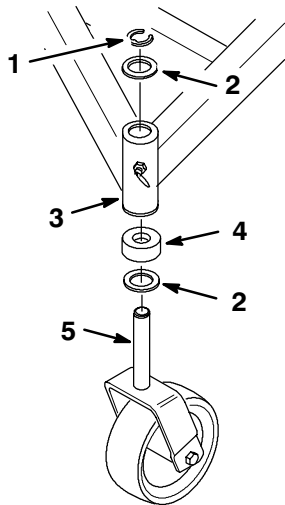

Figure 45
mower. Move the thrust washers from the bottom of the mounting tube to the top to lower the front of the mower. (Fig. 45).
3. To change the side-to-side leveling, move the thrust washers on one castor wheel fork only. Move the thrust washer(s) from the top of the carrier frame mounting tube to the bottom to raise the corresponding side of the mower. Move the thrust washer(s) from the bottom of the mounting tube to the top to lower the corresponding side of the mower. (Fig. 45).